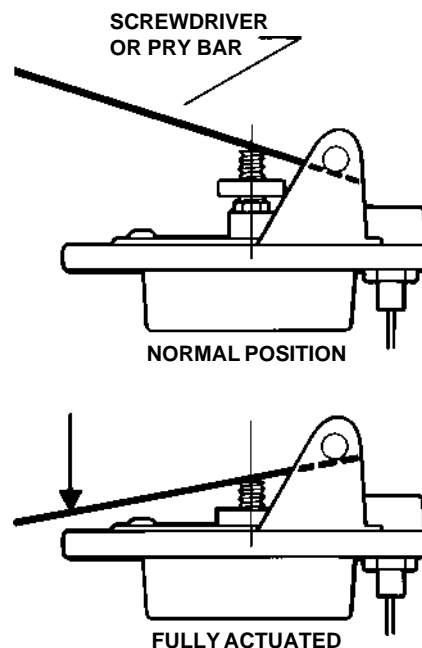

Fig. 10 - Actuator Plunger Actuation
1. Position the valve in the test fixture to allow plungers to be activated by hand using a lever. See Fig. 10.
2. Attach pilot supply line to 'Px' port of valve body (20).
3. Attach main supply lines to 'P1' and 'P2' ports of valve body (20).
1. Install pivot pin (38) in actuator base (46) by itself without installing pedal (50) assembly.
2. By taking a screw driver or pry bar and placing it under pivot pin (38) and on top of actuator plunger (2) assembly, you will be able to actuate each circuit individually. See Fig. 10.
3. Gradually apply pressure on each circuit to check for leaks. Make sure adjustment collar (1) is screwed all the way down on the threads.
4. Adjust adjustment collar (1) up (anticlockwise) starting with one turn increments until the output pressure is 159 bar (2 300 lbf/in2) at port 'B1' with adjustment collar (1) contacting actuator base (46) (fully actuated). See Fig. 10. Fine adjustment will require only turning the collar in 1/8 turn increments.
5. Adjust adjustment collar (1) up (anticlockwise) starting with one turn increments until the output pressure is 52 bar (750 lbf/in2) at port 'B2' with adjustment collar (1) contacting actuator base (46) (fully actuated). See Fig. 10. Fine adjustment will require only turning the collar in 1/8 turn increments.
8. Tighten the capscrews in adjustment collars (1) to 3 - 3.5 Nm (25 - 30 lbf in). You may have to rotate entire actuator plunger (2) to get to the capscrews.